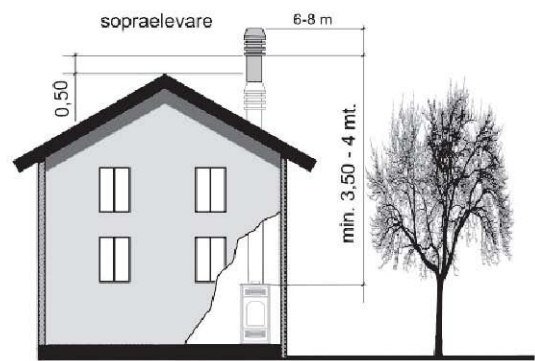
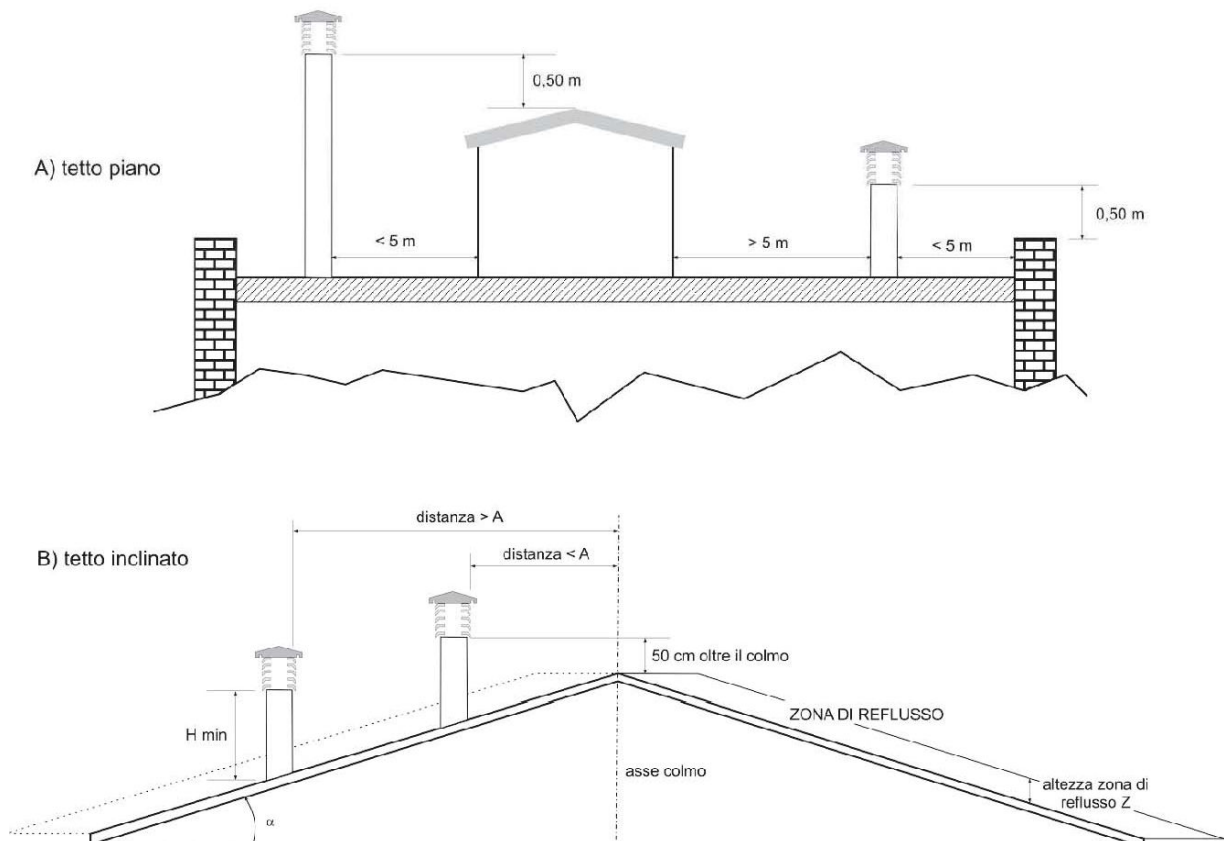

Fig. 4
Fig. 5
- The chimney pot must be positioned so as to guarantee an adequate dispersion and dilution of combustion products and, in any case, outside the zone of reflux. This zone can be of different sizes and shapes depending on the angle of slope of the roof, so it is necessary to adopt the minimum heights shown in *fig. 4* and *fig. 5*.
- The chimney pot must be of wind-proof type and exceed the height of the ridge, *fig. 4* and *fig. 5*.
- Any buildings or other obstacles that exceed the height of the chimney pot must not be close to the chimney pot itself (*fig. 4*).